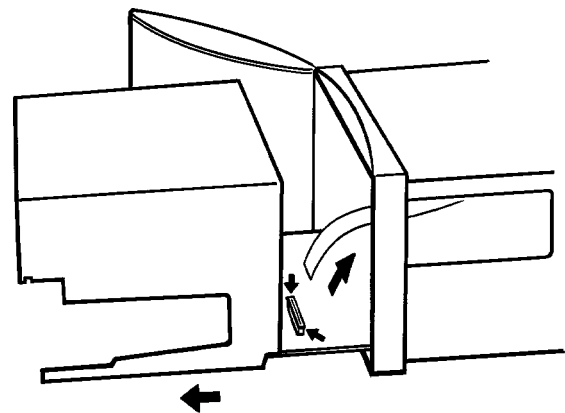

Figure 2 Flexi-cable removal
4. As shown in figure 2, release the flexi, by pulling the 'ears' at the ends of the connector in a direction away from the circuit board. The flexi may now be removed from the connector, and the writing system removed from the case and laid in a static safe area.